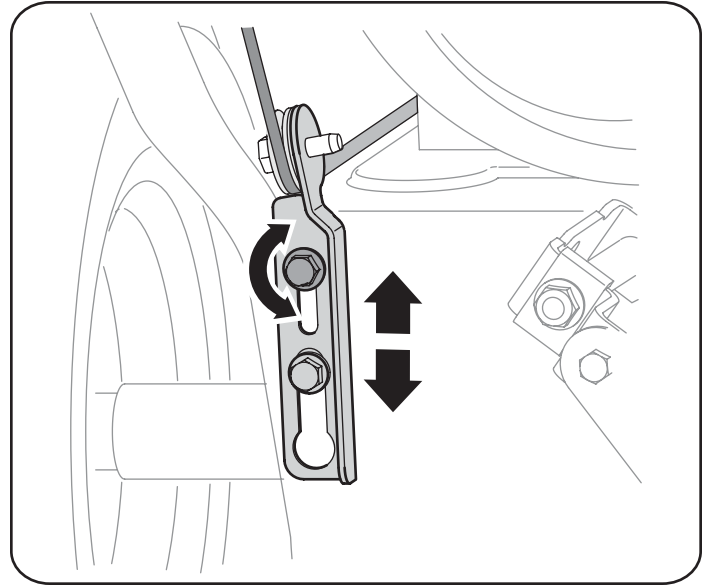

Figure 18
4. Allow the augers to remain engaged for approximately ten (10) seconds before releasing the auger control. Repeat this several times.
7. To readjust the control cable, loosen the upper hex bolt on the auger cable bracket. See Figure 18.